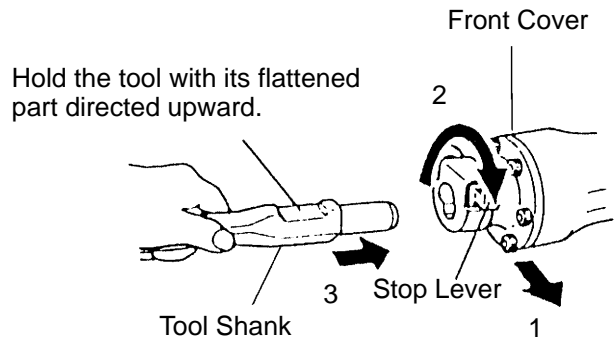
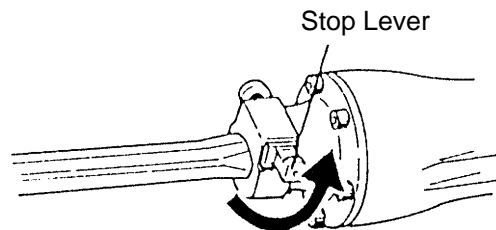

Fig. 4
Fig. 5
8-2. Stop Lever [Tool Retainer] (Fig. 4 and Fig. 5)
- (1) Clean, then smear the tool shank with grease or machine oil. (Fig. 4)
- (2) Rotate the stop lever 180° in a clockwise direction while pulling it toward you. Next, insert the tool shank into the hexagonal hole on the front cover. (Fig. 4)
- (3) Clamp the tool by turning the stop lever by half a turn in the opposite direction. (Fig. 5)